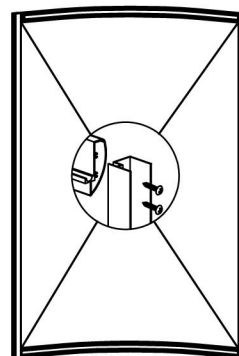
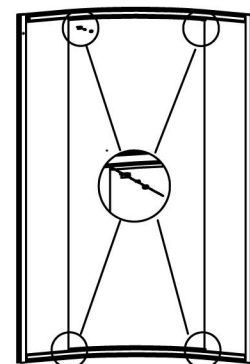

Fig.3
Fig.4
2. (Fig.3) Assemble shower frame by screwing glass aluminum profiles into top and bottom rounded profiles. (Fig.4). Fixed glass panels can now be slid into glass profiles, and fix the fixed glass panels with supplier small plastic parts and screws.